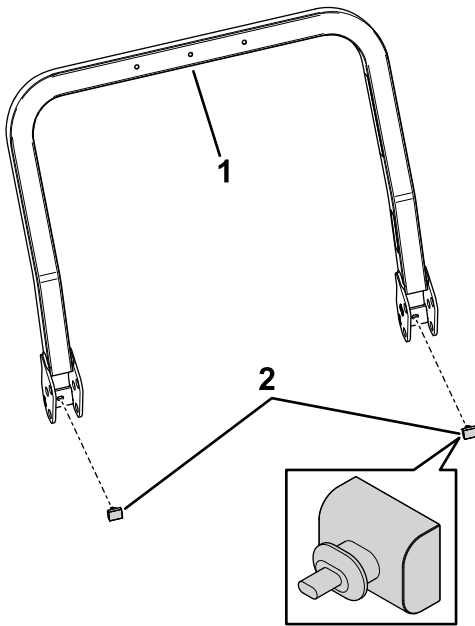

Figure 11
- Locate the upper roll bar tube. Install 2 rubber bumpers (Figure 11).